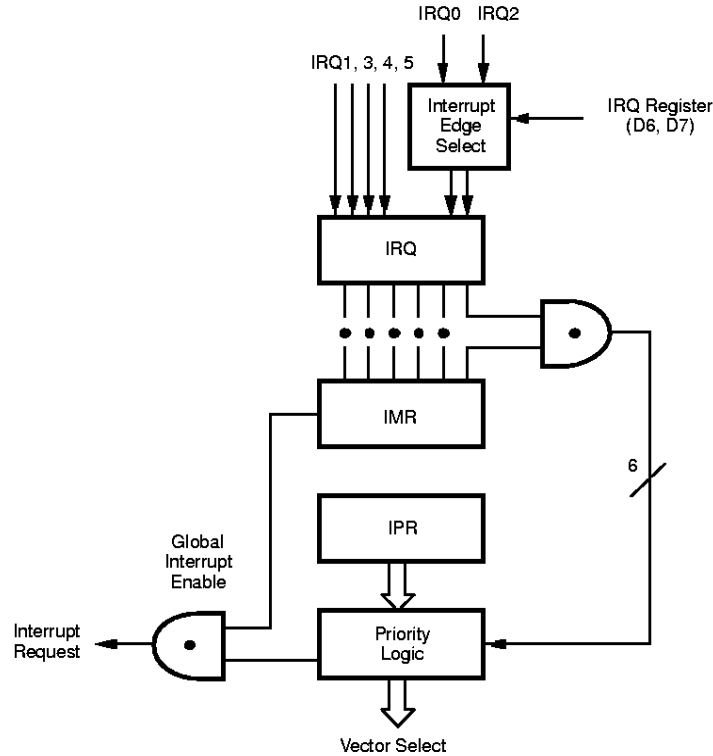

Figure 26. Interrupt Block Diagram
**Interrupts.** The Z8 has six different interrupts from six different sources. The interrupts are maskable and prioritized (Figure 26). The six sources are divided as follows; three sources are claimed by Port 3 lines P33–P31, two by